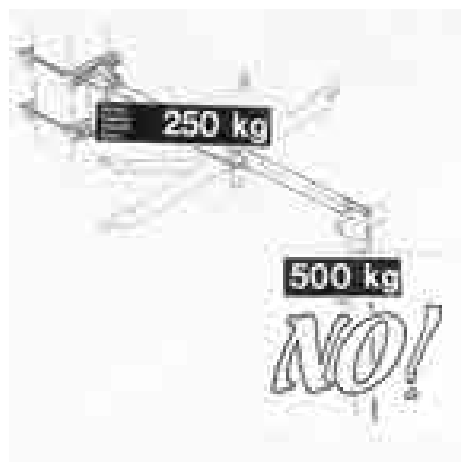

fig.13
- The characteristics of the lifting unit (hoist), if not part of the supply, are compatible with those of the jib crane (see point 2.2.7) in relation to: (fig.13)